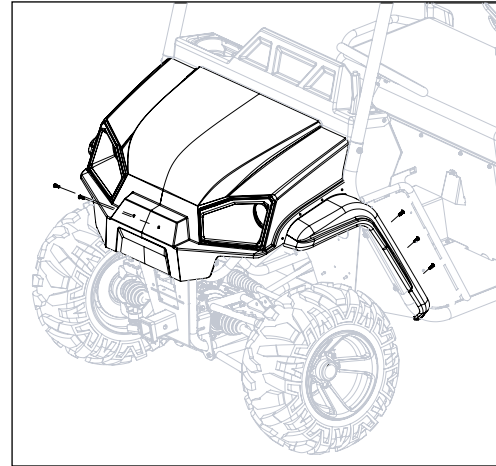

figure 4.13 (hood removal) Note: Rotate screws left to loosen and right to tighten.
1. Using 4mm Allen Wrench, remove the (2) front hood fasteners and the 6 rear fender fasteners as shown in Fig 4.13.